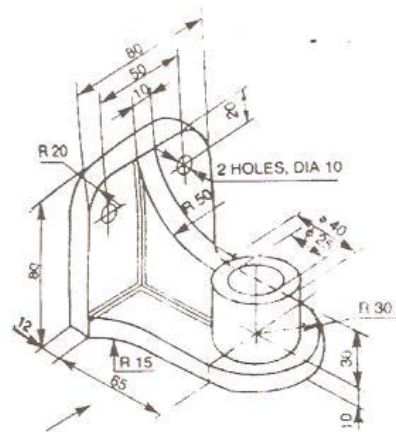

Figure 1
- b) Draw sectional view from the front and view from above of an bracket given in Fig. 1. 10